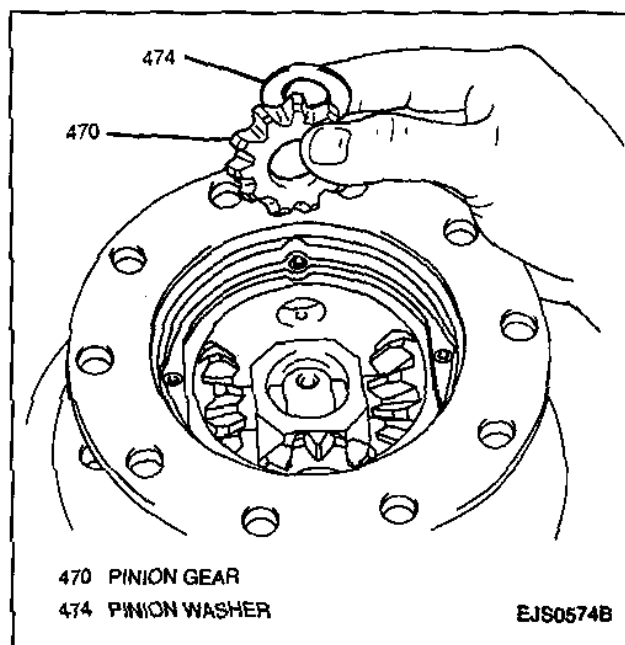

Figure 57—Installing Differential Pinion Gears
- Right side gear and washers, differential pinion gears and washers, cross shafts and pinion cross shaft joint in right differential case (Figure 57).